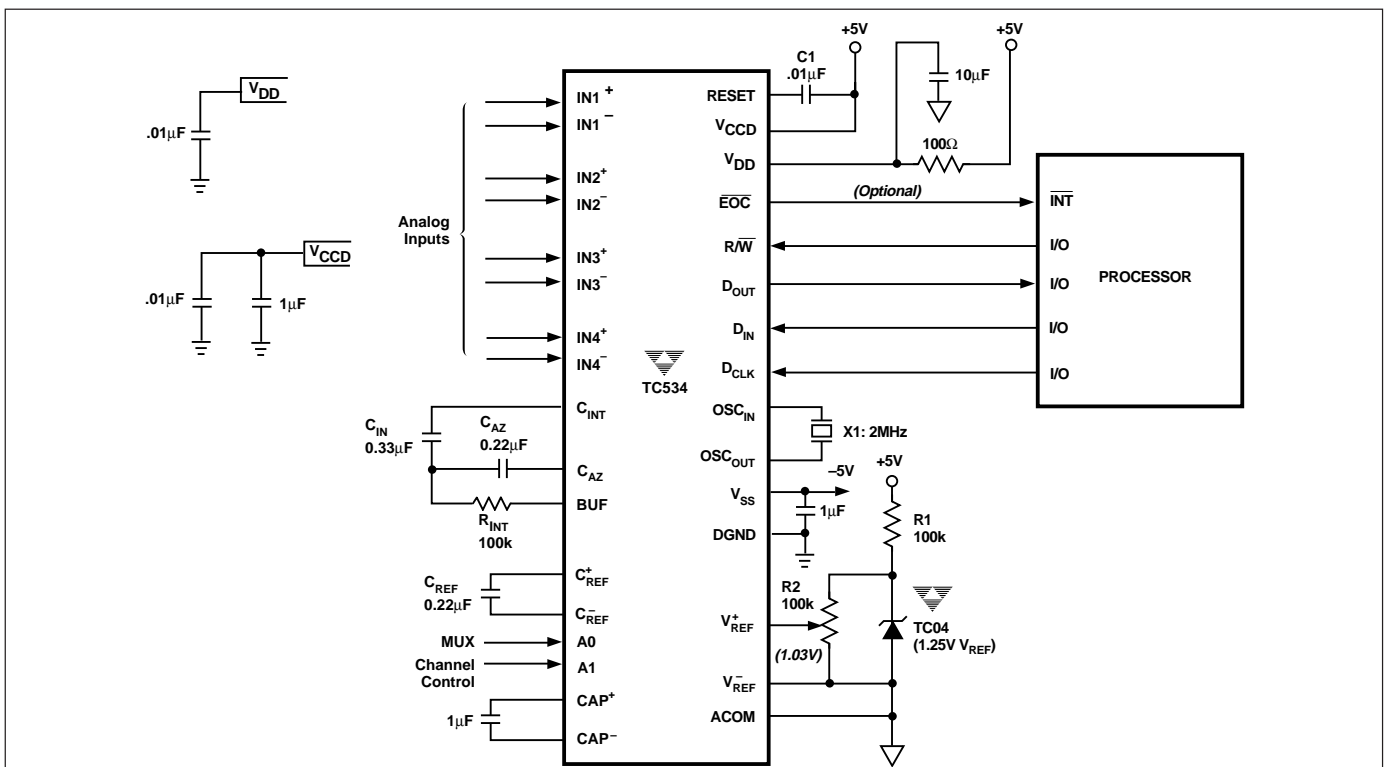

Figure 6. TC530/534 Typical Application
Figure 6 shows a typical TC534 interrupt-driven application. Timing and component values are calculated from equations and recommendations made in the Dual Slope Integrating Converter and Programming the TC530/534 sections of this document. The EOC connection to the processor INT input is for interrupt-driven applications only. (In polled systems, the EOC output is available on D_{OUT}).
(2) Improper sequencing of the power supply inputs (V_{DD} vs. V_{CCD}) can potentially cause an improper power-up sequence to occur in the internal state machines. It is recommended that the digital supply, V_{CCD} , be powered up first. One method of insuring the correct power-up sequence is to delay the analog supply using a series resistor and a capacitor. See Figure 6, TC530/534 Typical Application.
(3) Decoupling capacitors, preferably a higher value electrolytic or tantalum in parallel with a small ceramic or tantalum, should be used liberally. This includes bypassing the supply connections of all active components and the voltage reference.
(4) Critical components should be chosen for stability and low noise. The use of a metal-film resistor for R_{INT} and Polypropylene or Polyphenylene Sulfide (PPS) capacitors for C_{INT} , C_{AZ} , and C_{REF} is highly recommended.
(5) The inputs and integrator section are very high impedance nodes. Leakage to or from these critical nodes can contribute measurement error. A guard-ring should be used to protect the integrator section from stray leakage.
(6) Circuit assemblies should be scrupulously clean to prevent the presence of contamination from assembly, handling, or the cleaning itself. Minutely conductive trace contaminants, easily ignored in most applications, can adversely affect the performance of high impedance circuits. The input and integrator sections should be made as compact and close to the TC53x as possible.
(7) Digital and other dynamic signal conductors should be kept as far from the TC53x's analog section as possible. The microcontroller or other host logic should be kept quiet during a measurement cycle. Background activities such as keypad scanning, display refreshing, and power switching can introduce noise.